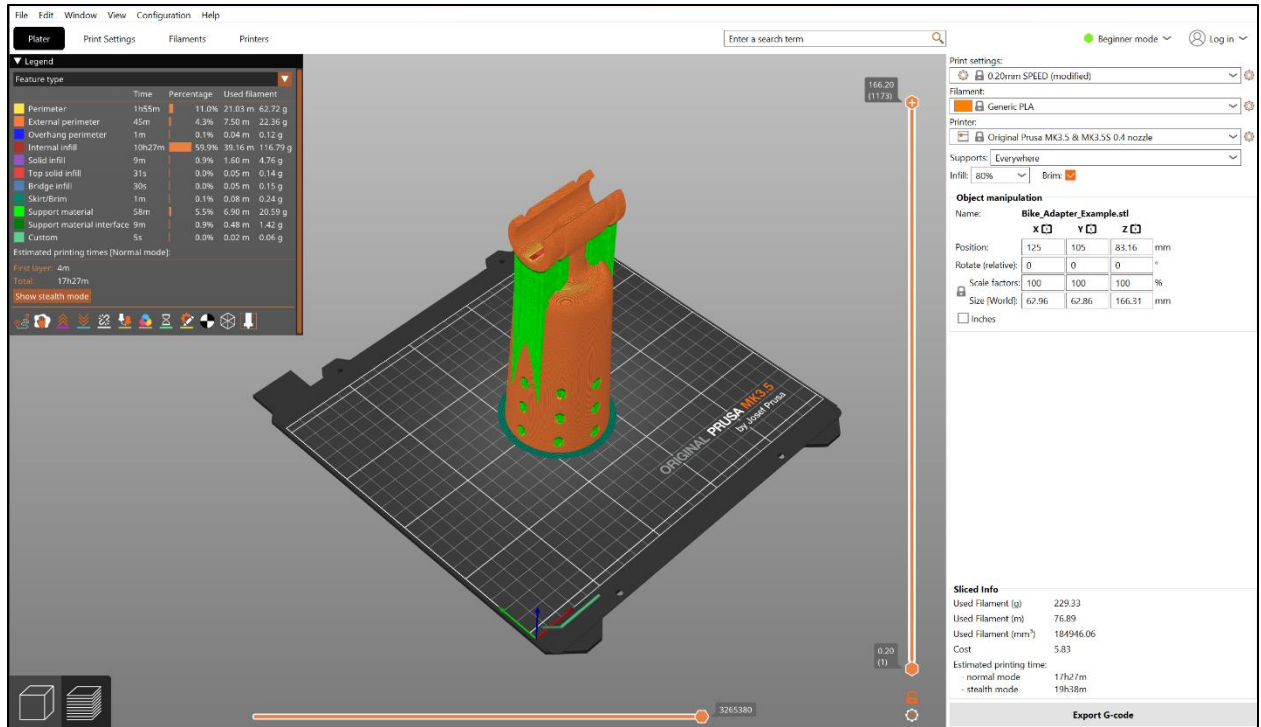

Figure 5. Slice plate
- 9.) Once the slicing is finished, click “Export G-code” (see Figure 5) and save the G-code to a flash drive.